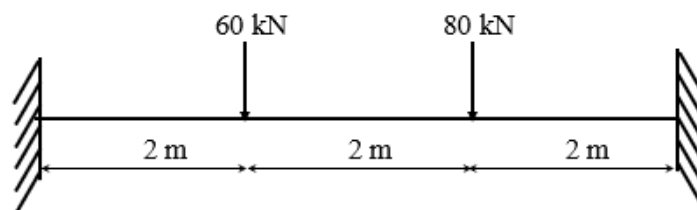

Figure 2
- (c) Analyze the fixed beam shown in the figure 2. **07**